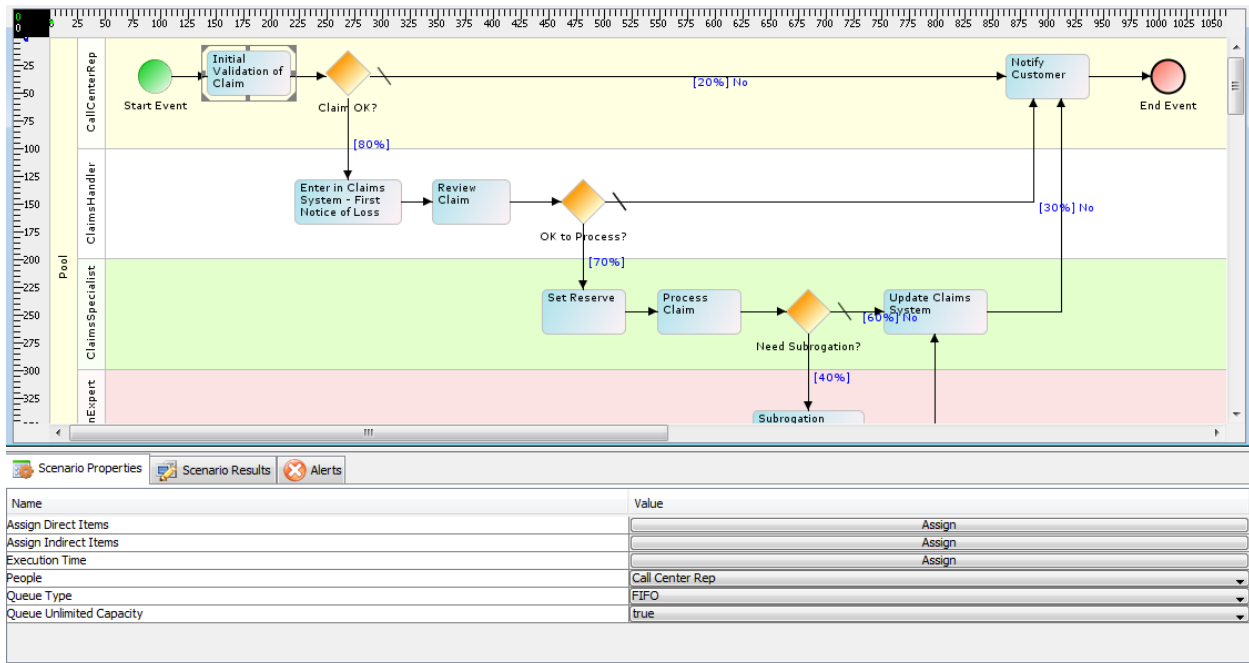

Figure 10: Scenario Properties
- To assign a resource to an activity, double-click the activity in the graph canvas. Properties of the activity are shown in the Scenario Properties panel in the bottom pane (see Figure 10).